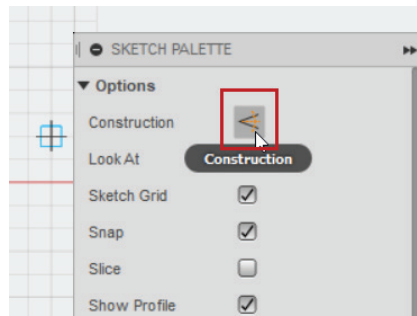
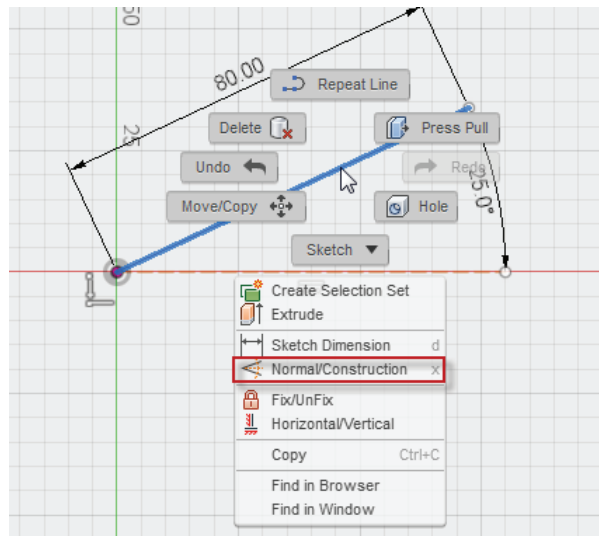

Figure-5. Construction button in SKETCH PALETTE
Figure-6. Marking menu
- To create a line for construction purpose, click on the **Construction** button from **SKETCH PALETTE** displayed at the right in the application window after activating **Line** tool; refer to Figure-5. (You will learn more about **SKETCH PALETTE** later in this chapter.) You can also right-click on the line after creating it and then click on **Normal/Construction** button from **Marking** menu to do the same; refer to Figure-6.